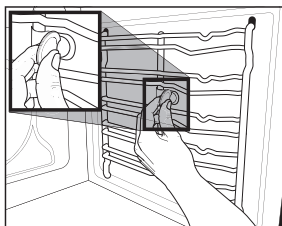

Fig. 4
1. Remove the screws and relative plates on the right and left with the aid of a coin or tool (fig. 4).